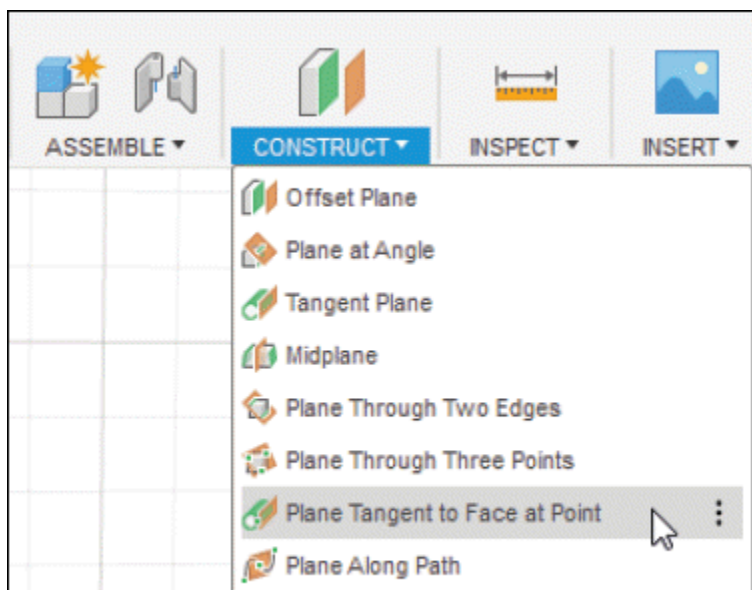
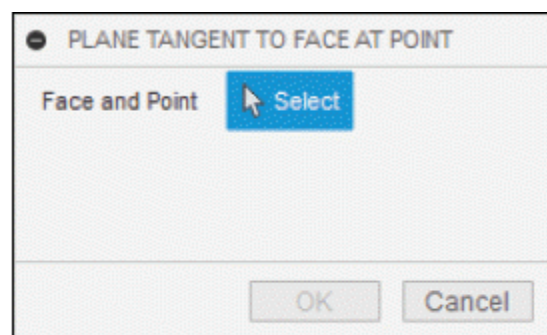

Figure-93. Plane Tangent to Face at Point tool
Figure-94. PLANE TANGENT TO FACE AT POINT dialog box
- Click on the **Plane Tangent to Face at Point** tool of **CONSTRUCT** drop-down from **Toolbar**; refer to Figure-93. The **PLANE TANGENT TO FACE AT POINT** dialog box will be displayed; refer to Figure-94.